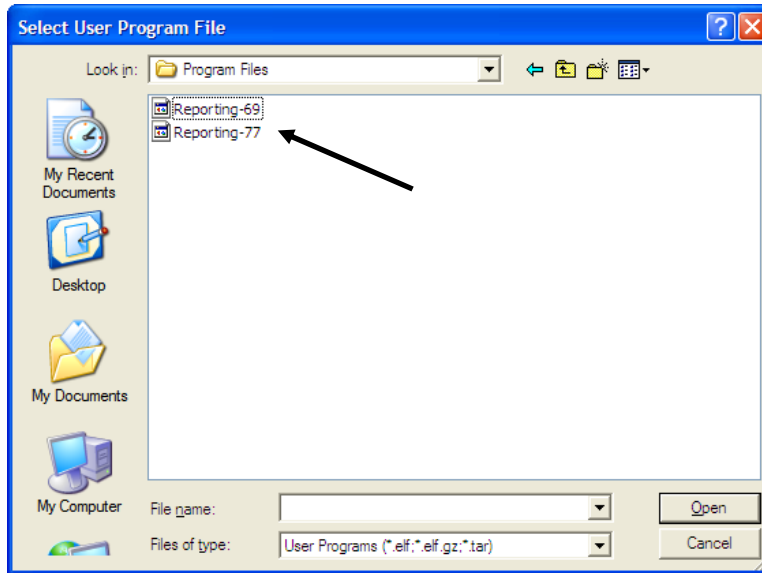

Figure 5. Select User Program File
2. Click **Browse** in the Download User Program File frame. The Select User Program File screen displays (see Figure 5).
3. Select the path and user program file to download from the CD-ROM. (Program files are typically located in the Program Files folder on the CD-ROM.) As Figure 5 shows, the screen lists all valid user program files with the .TAR extension: